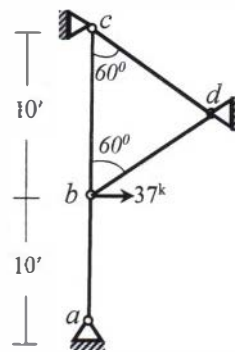

Fig.2
- Identify zero-force members of the truss *abcd* loaded as shown in Fig.2. Determine the displacements of joint *b*. Also calculate member forces [Given: $EA/L = 1000$ k/ft].